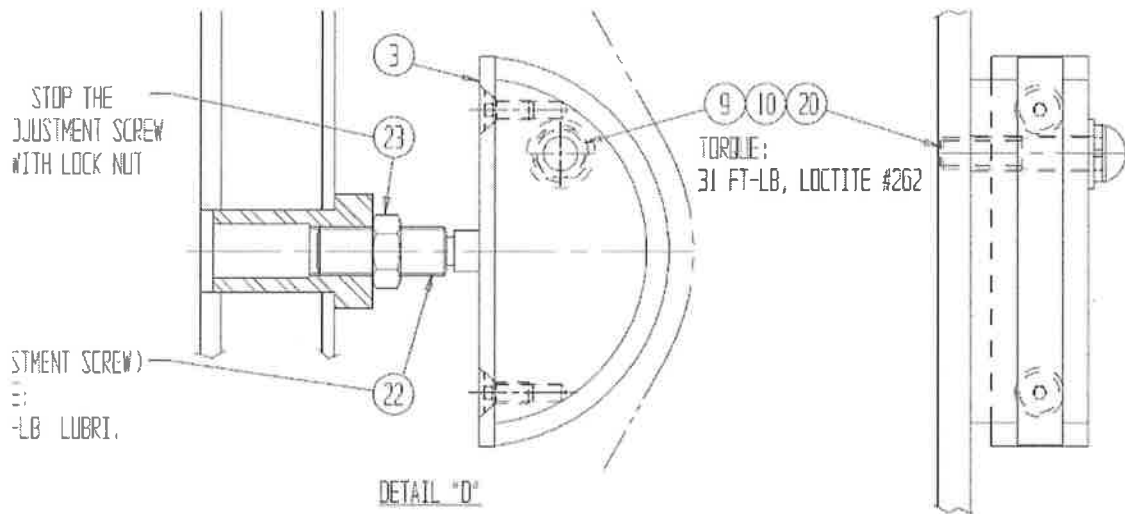

Figure 2
2. Use a torque wrench at 90% (28 ft-lb) of the 31 ft-lb recommended torque on the bolt holding the chain binder in place. If the bolt is found loose, replace with a new one (100-006-293). Use Loctite #262 as per the leveling system schematic in the parts manual (Fig.2)